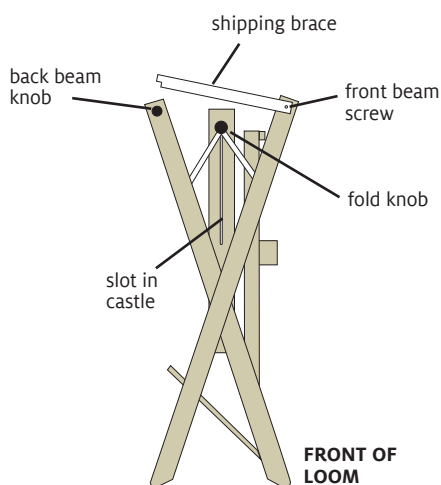

FIGURE 1: UNPACKING AND UNFOLDING
2. Remove the front beam: unscrew the front beam screws and barrel nuts holding it in place—see Figure 1. Take the front beam completely off the loom. (The loom ships with the front extension facing inward to prevent damage.)
1. Slightly loosen the black fold knobs on each side of the loom (Figure 1). Generally, a single turn will do.
3. Start folding the loom: Loosen the fold knobs one full turn and pull them up in their slots (Figure 1, page 3).